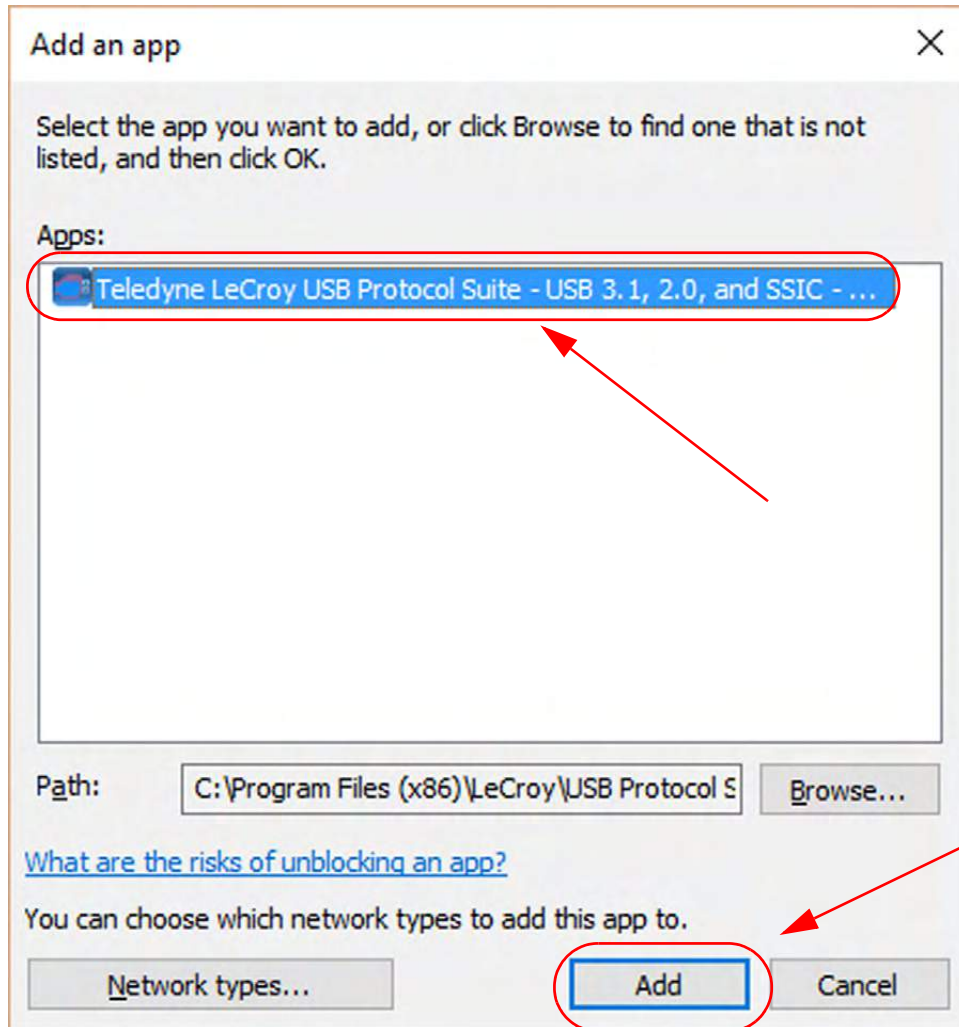

Figure 3.26: Windows 10: Add an Application to the Firewall Exceptions
10. After the Application has been added, you can see it in the “Allow apps to communicate through Windows Firewall” screen. See Figure 3.26.